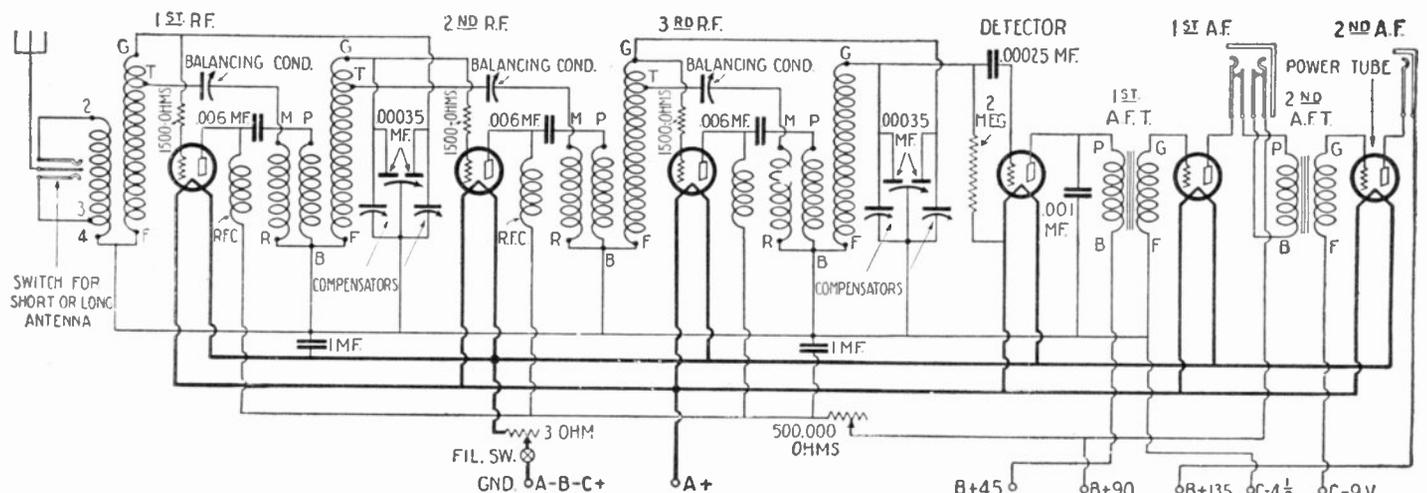

Fig. 131. This diagram shows the connections of the Counterphase Power Six Tube Receiver in schematic form.
A. 1. The schematic wiring diagram for the Counterphase Power Six Receiver is shown in Fig. 131. It incorporates three stages of tuned-radio-frequency amplification, a special neutralizing system for overcoming oscillations in each R.F. stage, a detector and a two-stage transformer-coupled audio-frequency amplifier, in whose final stage a power tube is employed.